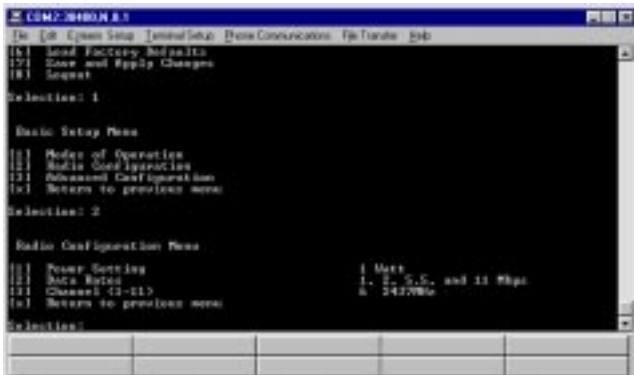

Figure 2: Radio Configuration Menu
2. Select **Radio Configuration** (2<Enter>) to load the Radio Configuration Menu (Figure 2).